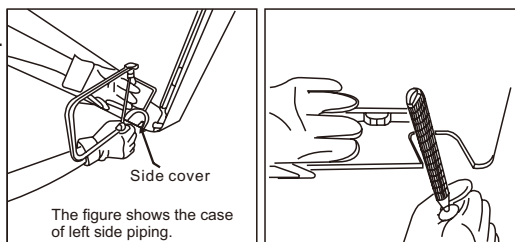

Fig 2
4. Bottom or side piping. (see Fig 2)